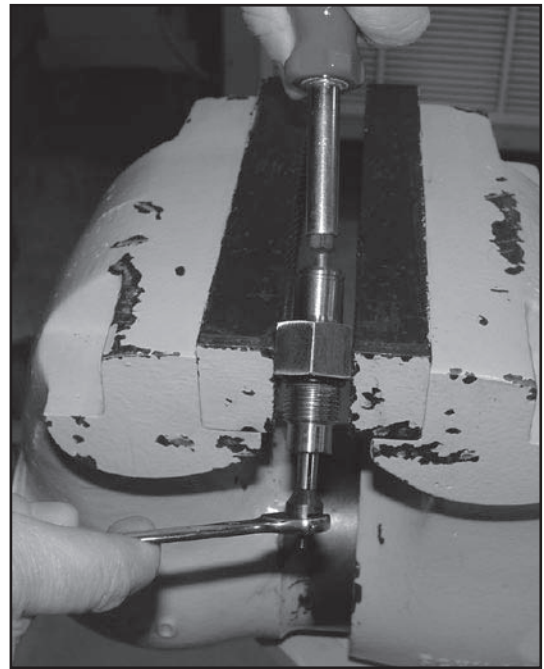

Figure 18. Servicing Plunger Body.
- d. Carefully insert the screwdriver bit into the plunger bore to engage the slotted head of the plunger body (Figure 18).